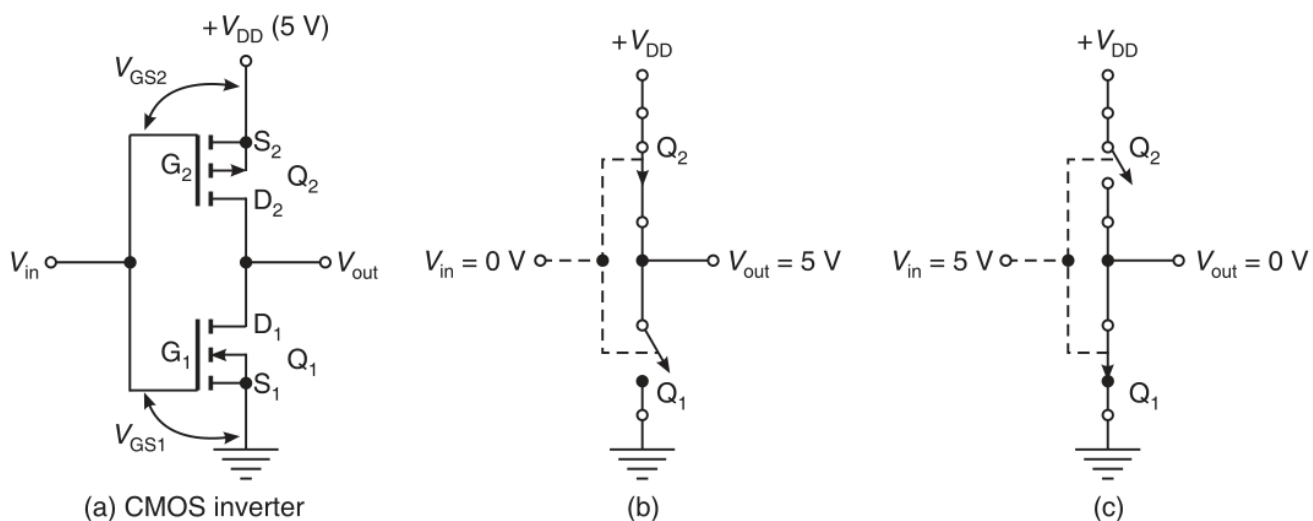

Figure 16.23 Circuit diagram and equivalent circuits for various inputs of the CMOS inverter.
Source: Kumar (Ch. 16, pp. 917-924, Figures 16.23, 16.24, 16.25)
1. The CMOS Inverter (Kumar, p. 921, Figure 16.23)